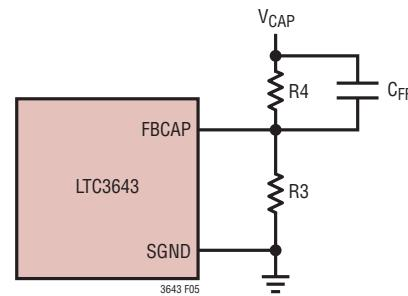

Figure 5. Setting The  $V_{CAP}$  Voltage In Step-Up Mode
**FBCAP (Pin 9):** Feedback Input to the Error Amplifier of the Cap Voltage Regulation Loop. Connect a resistor divider tap to this pin. The CAP voltage can be adjusted such that VCAP = 0.6V (1+R4/R3) (See Figure 5).